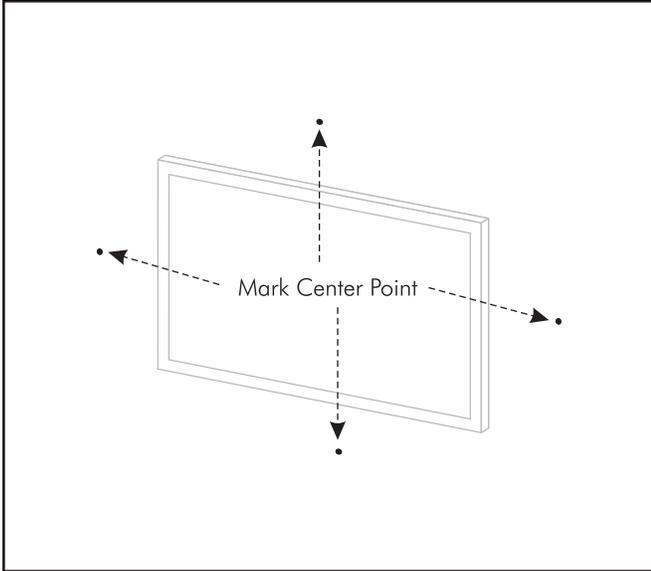

Figure 19. Mark the center points.
NOTE: Figures 19–24 illustrate the Fresco i mounted in 4 different configurations.
- 3 Mark your wall with the center point for the wall bracket (see figure 19).